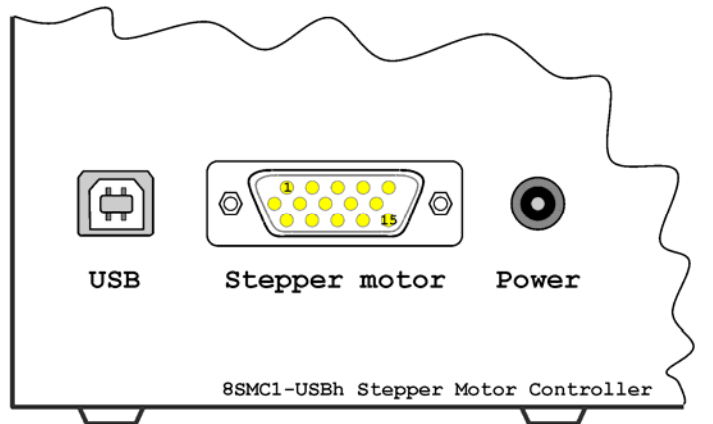

Figure 5. 8SMC1-USBh Stepper motor controller front panel
- Use 'Stage to controller cable' to connect motorized stage to 15-pin connector on 8SMC1-USBh front panel (see Figure 5).